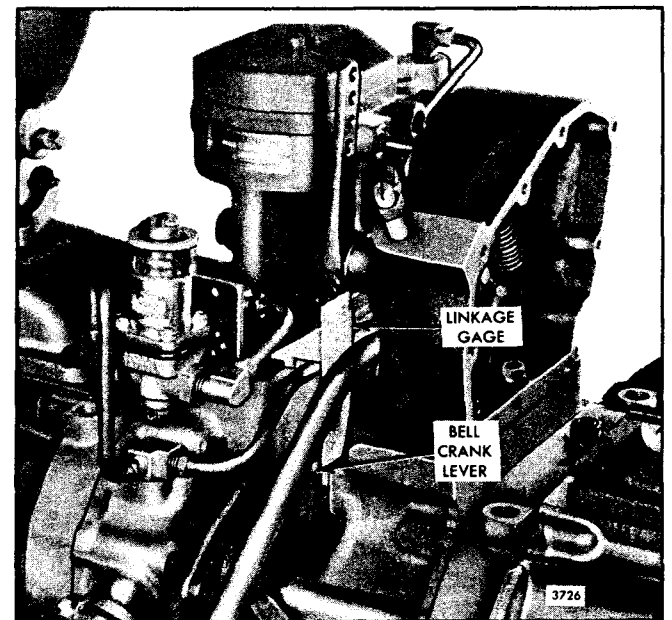

Fig. 4 - Linkage Gage in Position
4. Place linkage gage J 21351 in position so the pin in the gage enters the hole in the bell crank lever and the tangs on each side of the gage rest on top of the governor drive housing cover (Fig. 4). The gage holds the linkage in the full-fuel position while the injector racks are being adjusted.